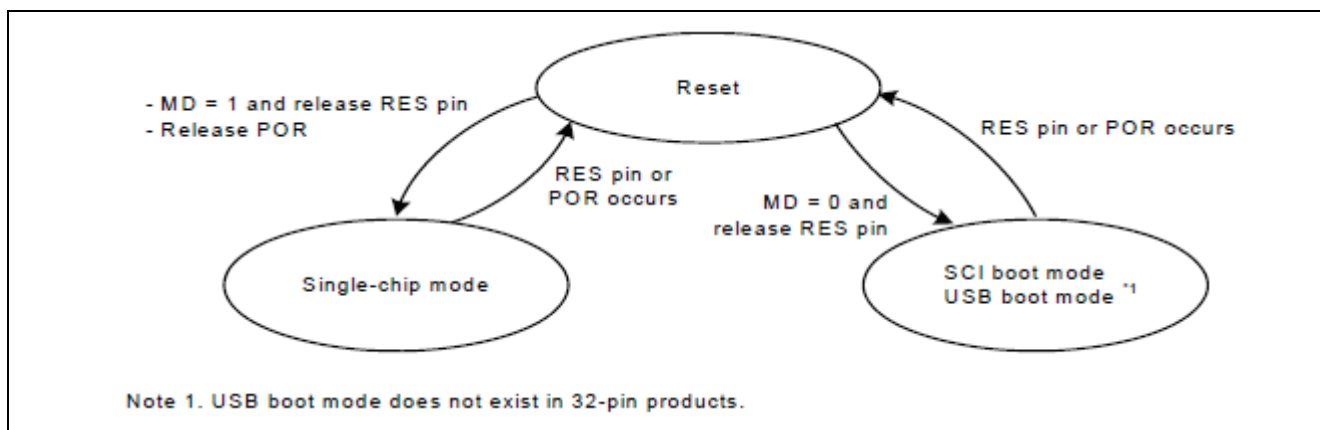

Figure 4. Mode Setting Pin Level and Operating Mode
Figure 4 shows operating mode transitions as determined by the Mode-Setting (MD) pin.